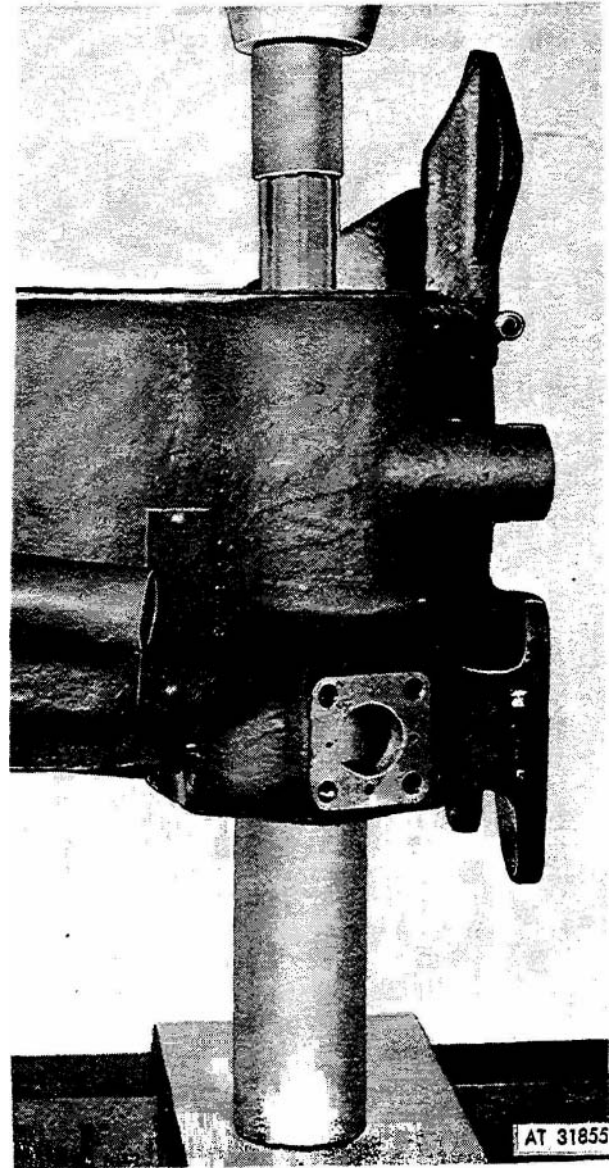

Figure 3-60. Pressing bushing from input gear.
(29) Press bushing (25) from input gear (24, fig 3-60).